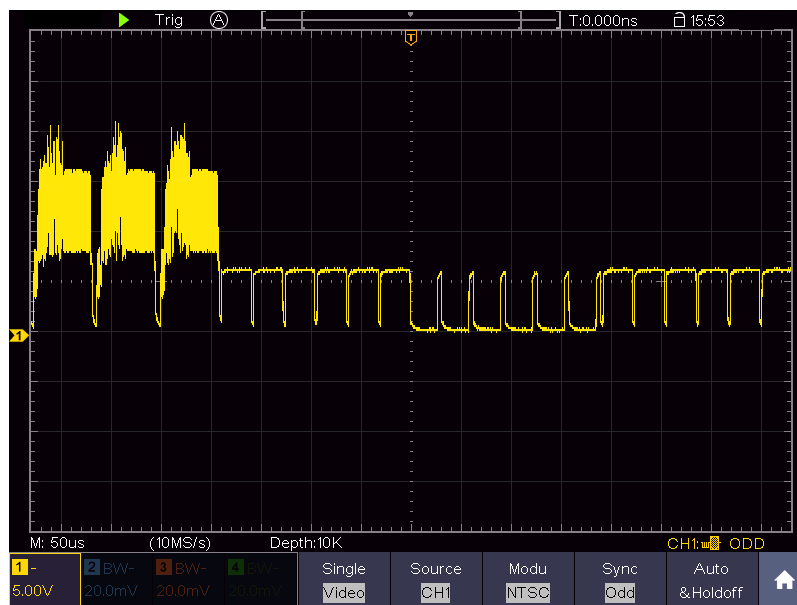

Figure 8-7 Waveform Captured from Video Field Trigger
- (1) Push the **Trigger Menu** button to display the trigger menu.
- (2) Select the first menu item in the bottom menu. Select **Single** in the right menu.
- (3) In the left menu, select **Video** as the mode.
- (4) Select **Source** in the bottom menu. Select **CH1** in the right menu.
- (5) Select **Modu** in the bottom menu. Select **NTSC** in the right menu.
- (6) Select **Sync** in the bottom menu. Select **Field** in the right menu.
- (7) Turn the **Vertical Scale**, **Vertical Position** and **Horizontal Scale** knobs to obtain a proper waveform display (see *Figure 8-7*).